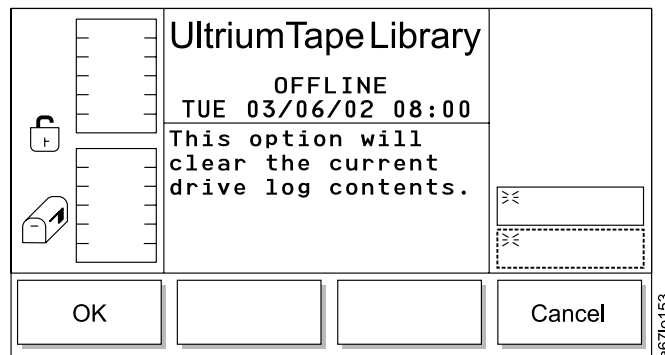

Figure 104. Clear Log Dialog
- If **Clear Log** is selected, the Clear Log Dialog displays (see Figure 104).